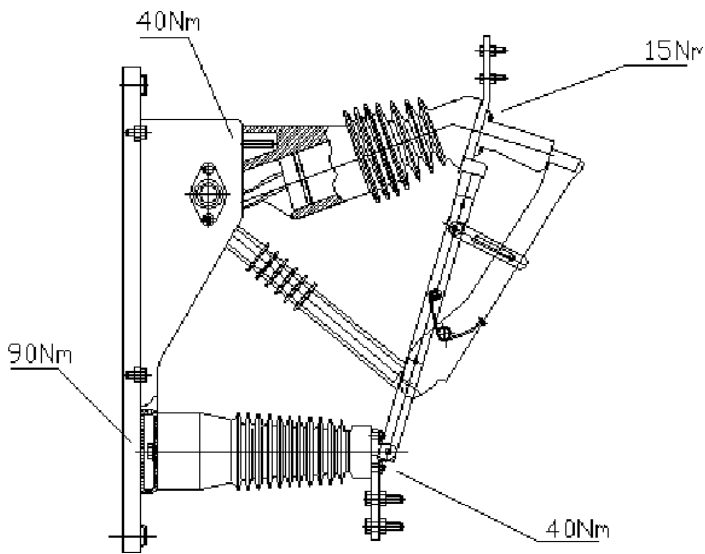

Fig. 26
15.5 Changing the piston with piston rod (fig. 26)